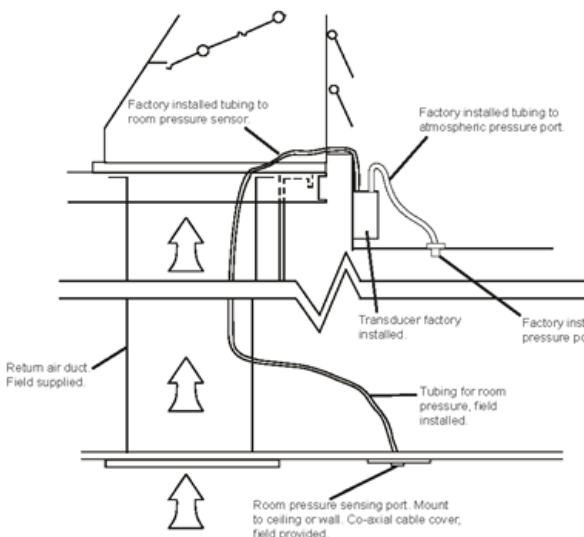

Fig. 1 - Typical Pressure Tubing Installation
Important! Do Not terminate tubing in ductwork! The negative pressure of the return air is not representative of building pressure - See Figure 1.
5. Install room pressure sensing port (factory supplied) in ceiling or wall. Avoid close proximity to supply registers. A Coaxial cover plate (field supplied) may be used for a clean finish - See Fig. 1
7. Install room pressure sensing port (factory supplied) in ceiling or wall. Avoid close proximity to supply registers. A Coaxial cover plate (field supplied) may be used for a clean finish - See Fig. 1